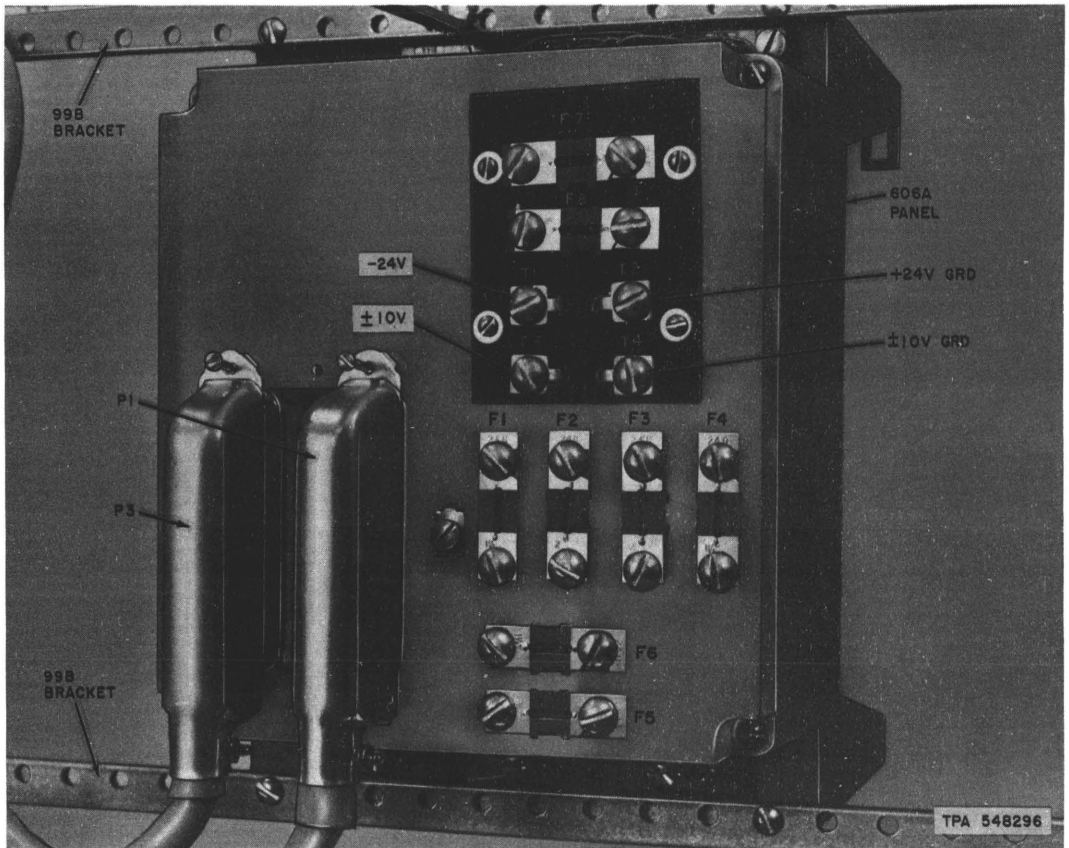
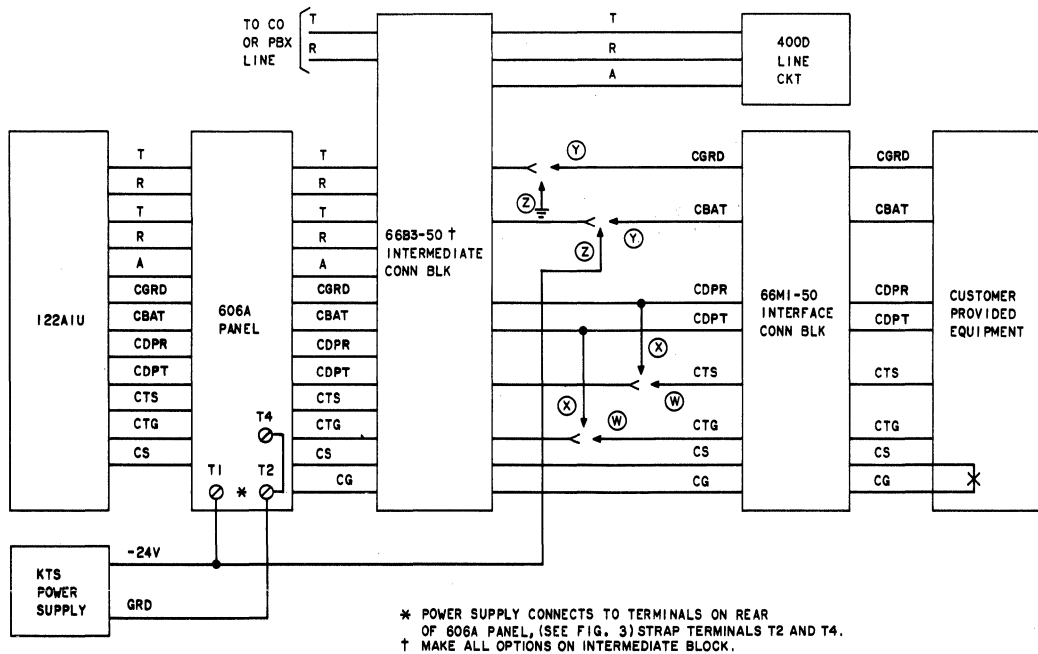
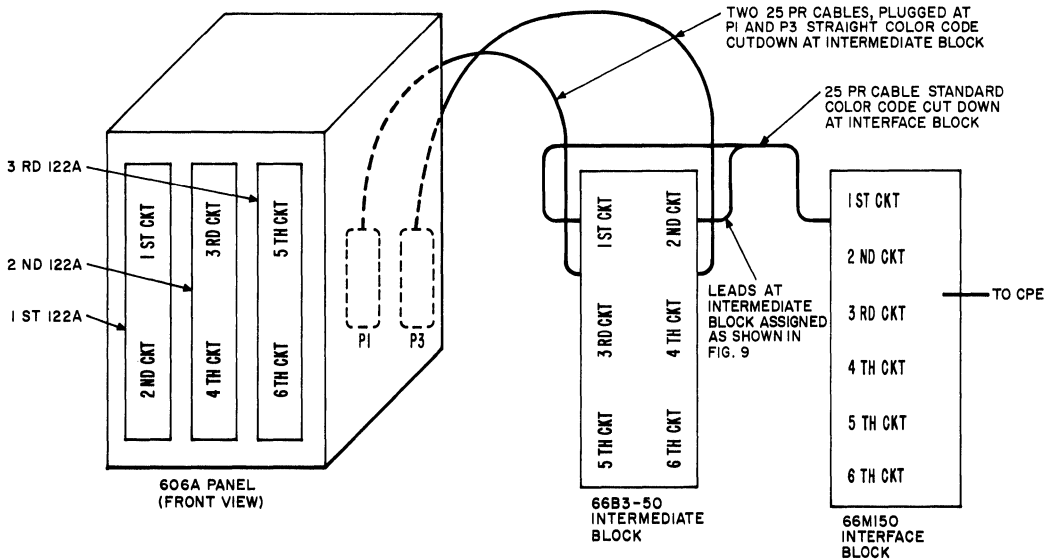

Fig. 3—606A Panel-Rear View
Fig. 5—Block Diagram-Voice Connecting Arrangement KTX
Fig. 6—Cabling Diagram—Voice Connecting Arrangement KTX
- Block, Connecting, 66B3-50 (as required, Fig. 5)
- Fuse panel included (Fig. 3).
3. INSTALLATION (Fig. 5 and 6)
3.04 Connect the two A25B connector cables to the two plugs, P1 and P3 (Fig. 3), on the rear of the 606A panel. P1 is wired to the three upper 914A connectors (J1A, J2A, J3A) and P3 is wired to the three lower 914A connectors (J1B, J2B, J3B). See Fig. 6 for connector and trunk arrangement in 606A panel. Terminate the raw ends of the two A25B connector cables on the 66B3-50 intermediate connecting block following the wiring plan shown in Fig. 5 and 6 and connections
circuits from left and right sides of the 66B3-50 intermediate connecting block to 66M1-50 interface connecting block. Terminate by cutting cable down the interface block in standard even count code as shown by Fig. 9. Assign leads as required and shown in Fig. 9 for the 66B3-50 intermediate block. Refer to Fig. 5, 7, and 9 for options (see 6.02). Make all options on the intermediate block. If option Z is required, run $-24V$ to the intermediate block and connect as shown in Fig. 9. Use B bridging clips to connect B and C columns together on interface block. Insulate and store unused leads at intermediate block. Stencil lead designations on fanning strip of interface block.
3.08 Use D station wire, or equivalent, to connect the KTS power supply to terminals T1 ($-24V$) and T2 (GRD) and strap T2 and T4 on rear of 606A panel. (See Fig. 3.) If KTS power supply is insufficient, use 19C2 power unit (or equivalent)